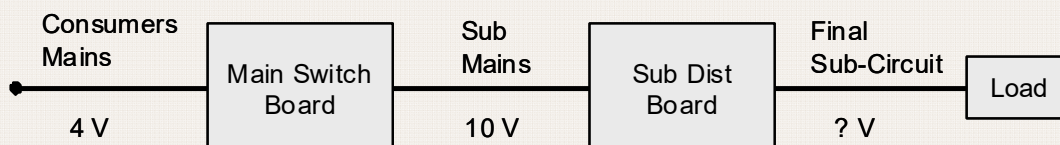

figure 11.
- Figure 11 is a 400 V three phase installation. What is the permissible voltage drop on the f.s.c.?